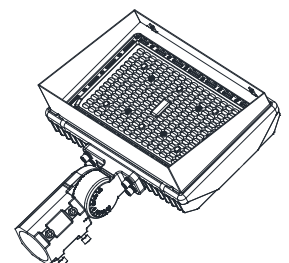

Figure 4
4. Ensure that the visor is tight and securely attached to the fixture, and installation is complete (Figure 4).
4. Ensure that the visor is securely attached to the fixture, and installation is complete (Figure 4).